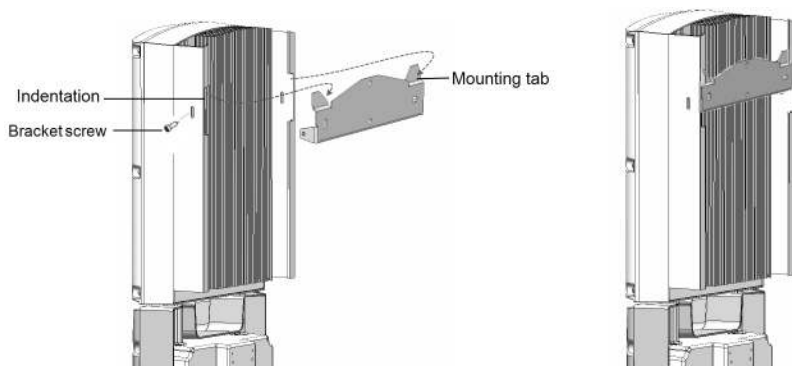

Figure 12: Hanging the inverter on the bracket
- Ensure that the flat side of the bracket is at the bottom, as in Figure 12.
4. Hang the inverter on the bracket (see *Figure 12*): Lift the inverter from the sides, or hold it at the top and bottom of the inverter to lift the unit into place. Do not lift holding the StorEdge Connection Unit as it may be damaged.
7. Insert the two supplied screws through the outer heat sink fin on both sides of the inverter and into the bracket (see *Figure 12*). Tighten the screws with a torque of $4.0 \text{ N}\cdot\text{m}$ / $2.9 \text{ lb}\cdot\text{ft}$.